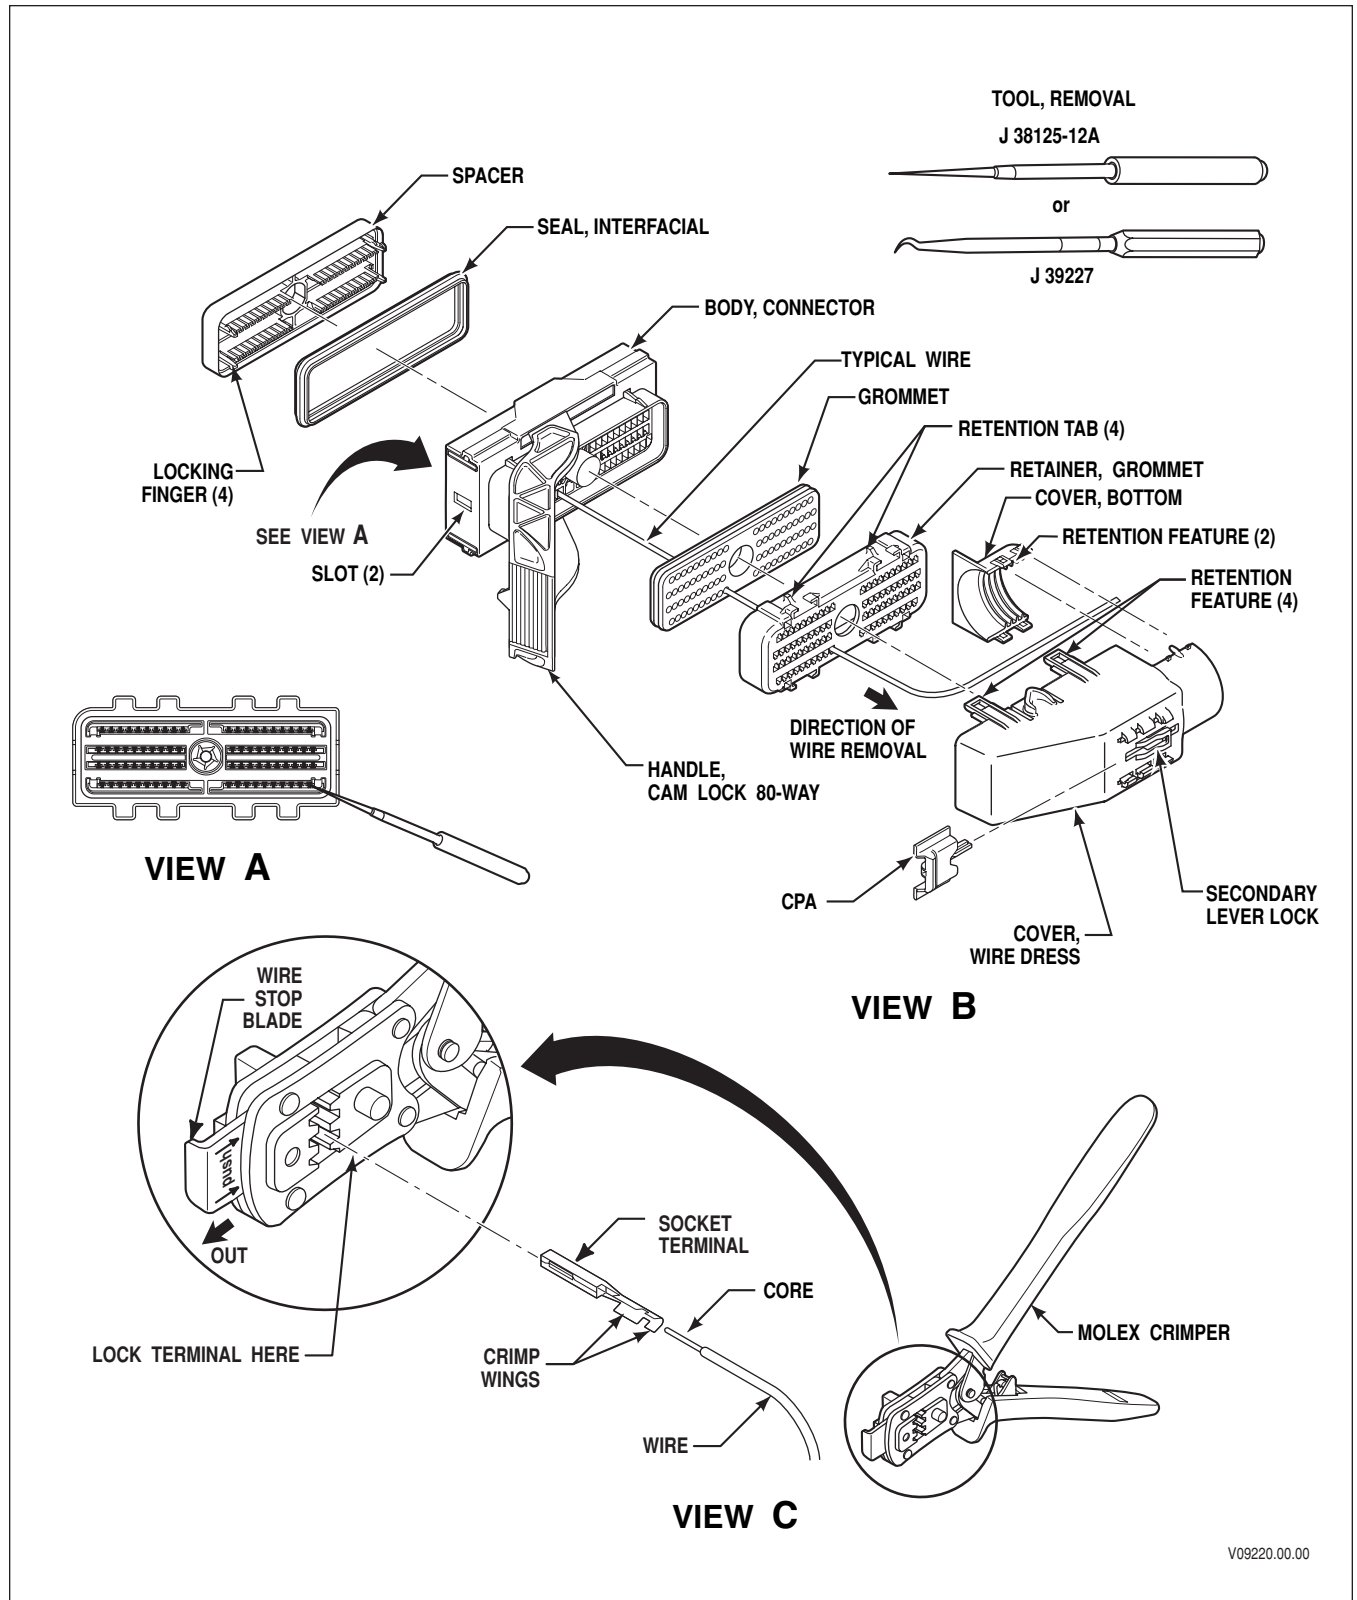

Figure E-2A. AFL 80F Cam-Assist, Dir 'A' Connector (TCM Connector)
APPENDIX E—CONNECTOR REPAIR INFORMATION**E-2. AFL AUTOMOTIVE 80F CAM-ASSIST CONNECTORS (TCM CONNECTOR)****A. Connector, Assembly 80F Cam-Assist, 'A' Dir (refer to Figure E-2A)****Required Tools**
6. Insert metal blade of J 38125-12A or J 39227 removal tool into front of connector body at desired terminal/wire lead cavity location (refer to Figures E-2A and E-2B).